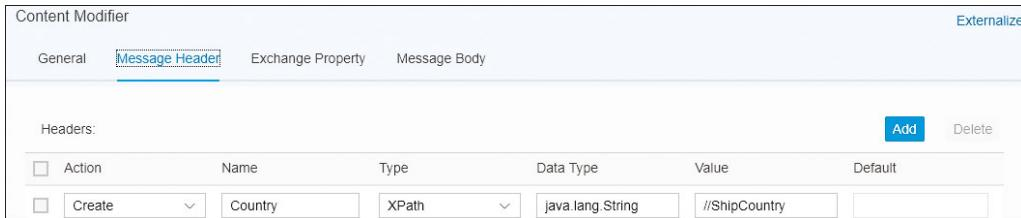

Figure 6.13 Setting the Header in the Second Content Modifier
2. Configure the second **Content Modifier** so that the value of the **ShipCountry** field of the OData message is written into the newly defined message header **Country** (Figure 6.13).